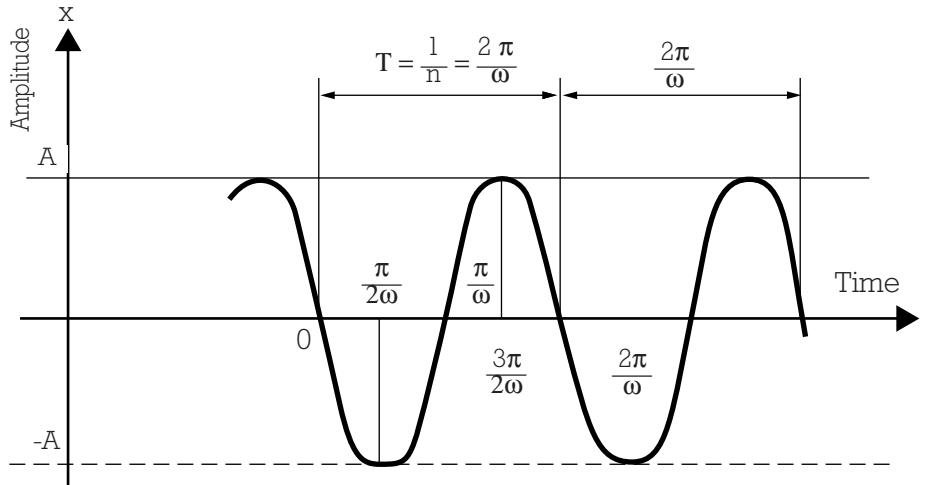

Fig. 1
- **Sinusoidal vibration $x = A \sin \omega t$ (fig.1)**
The oscillation continues indefinitely with an amplitude A (as shown in Fig. 1 with ω replaced by ω_o).